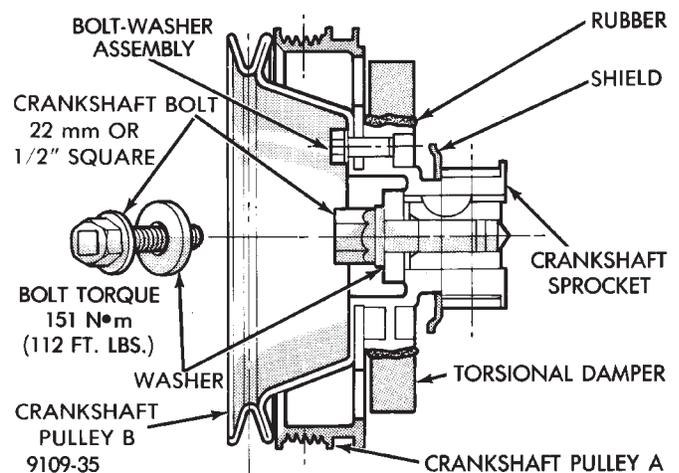
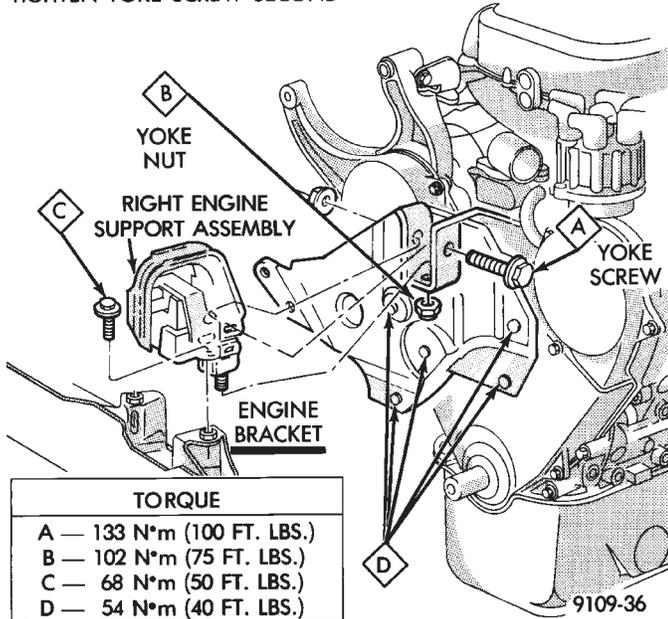

Fig. 9 Crankshaft Drive Pulleys
Fig. 10 Right Engine Mount and Engine Mount Bracket
(7) Remove crankshaft drive pulleys and torsional damper (Fig. 9).
(8) Lower vehicle and place a jack under engine.
(9) Mark support assembly to engine bracket if assembly is to be used again. Separate engine mount insulator from engine mount bracket (Fig. 10). Raise engine slightly.
(10) Remove engine mount bracket (Fig. 10).